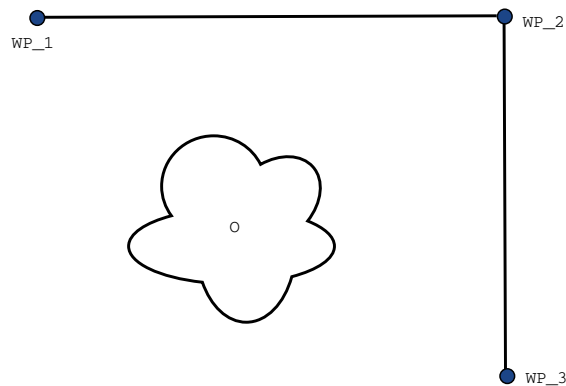

Figure 14.2: WP_1: initial position, WP_2: via point, WP_3: pick up position, O: obstacle.
Example Consider a pick and place application as an example (see figure 14.2), where the robot is currently at Waypoint 1 (WP_1), and it needs to pick up an object at Waypoint 3 (WP_3). To avoid collisions with the object and other obstacles (O), the robot must approach WP_3 in the direction coming from Waypoint 2 (WP_2). So three waypoints are introduced to create a path that fulfils the requirements.